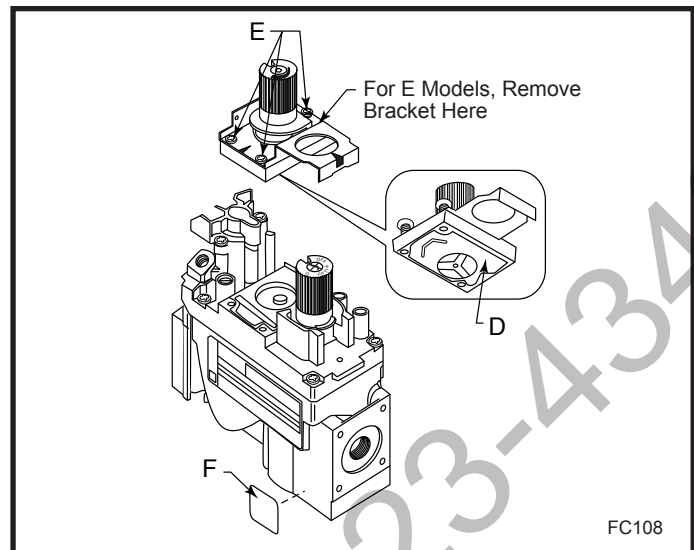

Fig. 59 Replace regulator.
14. **R Models.** Insure the rubber gasket (D) is properly positioned and install the new HI/LO pressure regulator assembly to the valve using the new screws (E) supplied with the kit. Tighten the screws securely. (Ref. torque = in/lb) (Fig. 59)
- E Models.** Using tin snips, cut the bracket along the edge and install the Hi/Lo pressure regulator assembly to the valve using the new screws (E) supplied with the kit. Tighten the screws securely. (Ref. torque = in/lb) (Fig. 59)
15. Install the enclosed identification label (F) to the valve body where it can easily be seen. (Fig. 59)